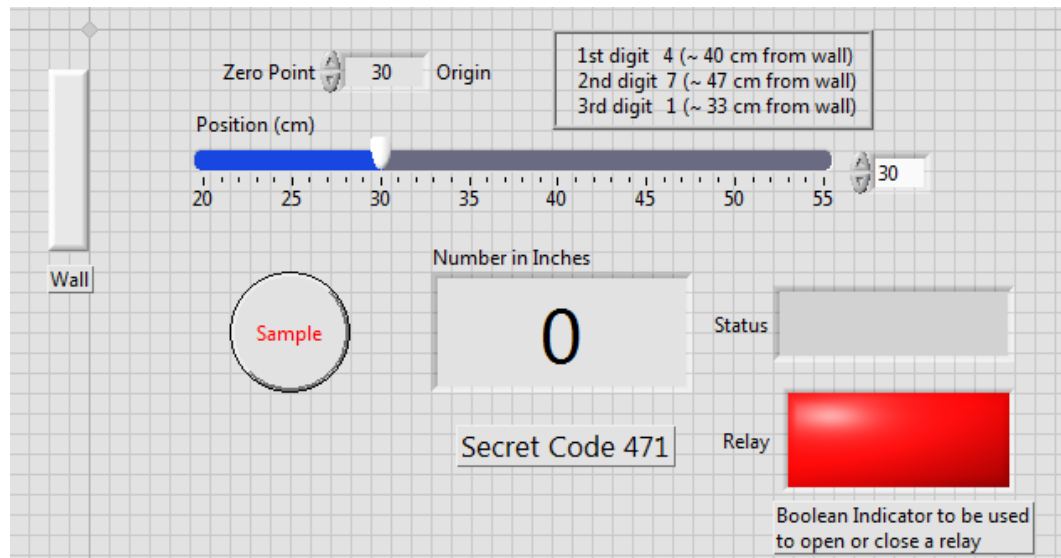

Fig. 9 Simulator to Demonstrate the Touchless Door Lock Operation
Step 2: Open and review the LabVIEW program (Fig. 9) called Unlock.vi.
This program simulates how the lock could work. The zero point location is a constant (30 cm), but in a real program, it would come from the Get Zero.vi. The current hand position, shown as a slider in Fig. 9, would come from the Get Location.vi in a real program. Run the program and use the slider to simulate the movement of your hand. When you are ready to input a number, press the [Sample] button. The current position rounded off to the nearest inch is shown in the display. After three numbers, the program will reveal the lock status. Test the measured locations with the secret code provided, or make your own. If a match is found the lock will open.